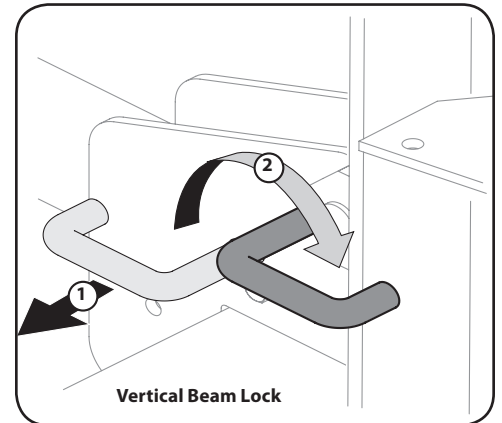

Figure 4-3
- b. To lock the beam in the vertical position, pull out on the vertical beam lock and rotate it until it latches to secure the beam. See Figure 4-3.